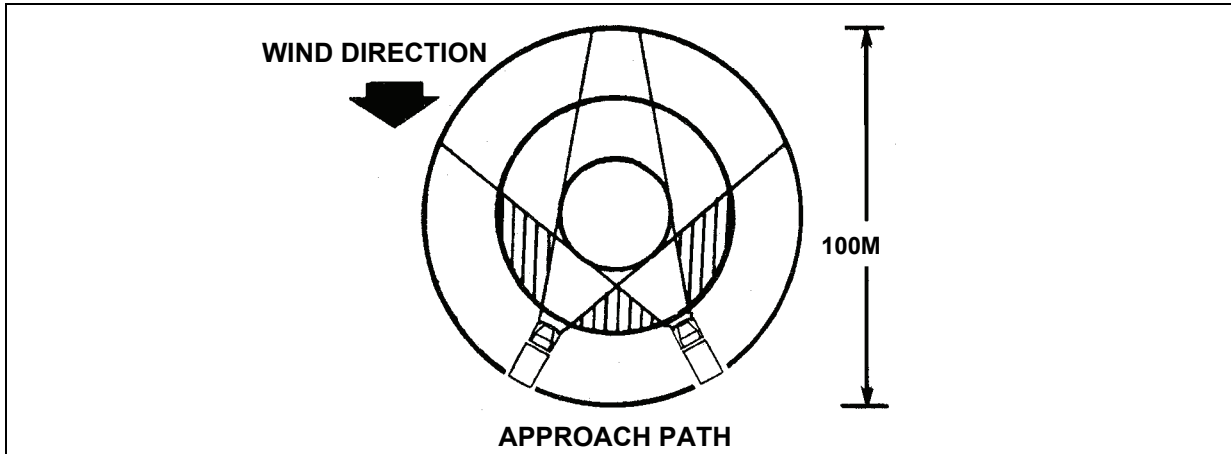

Figure 4-14. Emergency Lighting Pattern
- **Emergency Lighting.** During an emergency, various lighting patterns can be used with proper coordination between the aircrew and ground personnel. A common method using vehicles is shown in Figure 4-14. This method should only be used in an emergency because it impairs the pilot's night vision and can disclose the landing site position. Refer to NWP-55-9-ASH for other variations of night landing patterns (USMC).